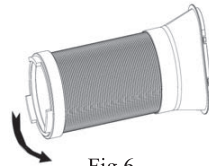

Fig.6
- Connect the exhaust pipe assembly with the round joint (as shown in Fig.6).